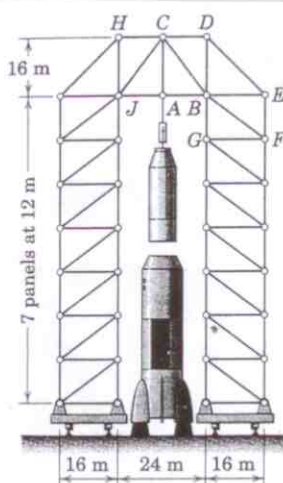

Fig. 3
3. The movable gantry is used to erect and prepare a 5000 kN rocket for firing. The primary structure of the gantry is approximated by the symmetrical plane truss shown in Fig. 3, which is statically indeterminate. As the gantry is positioning a 600 kN section of the rocket suspended from A , strain-gauge measurements indicate a compressive force of 50 kN in member AB and a tensile force of 120 kN in member CD due to the 600 kN load. Calculate the corresponding forces in members BF and EF using the method of joints. (25 marks)